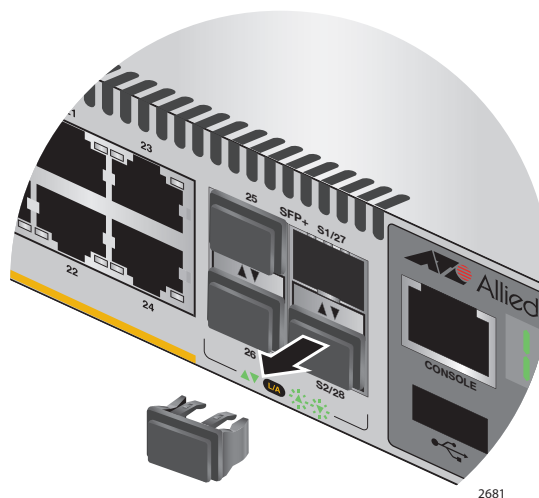

Figure 50. Removing the Dust Plug from the S1 Slot
1. Remove the dust plug from the S1 slot on the top switch of the stack, as shown in Figure 50.